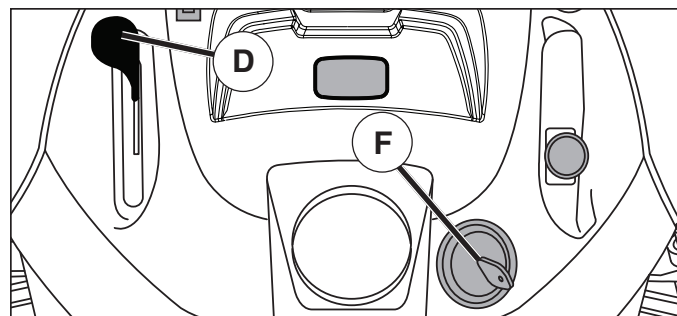

Fig. 6
- Move throttle control (D) to slow position.
- Turn ignition key (F) to "STOP" position and remove key. Always remove key when leaving tractor to prevent unauthorized use.
### TO USE THROTTLE CONTROL (D) (See Fig. 6)